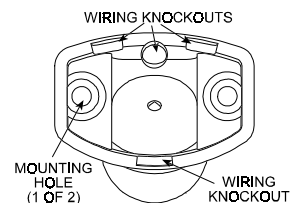

Figure 8. Bracket Rear
- Punch out the selected wiring knockouts in the bracket base (see Fig. 8).